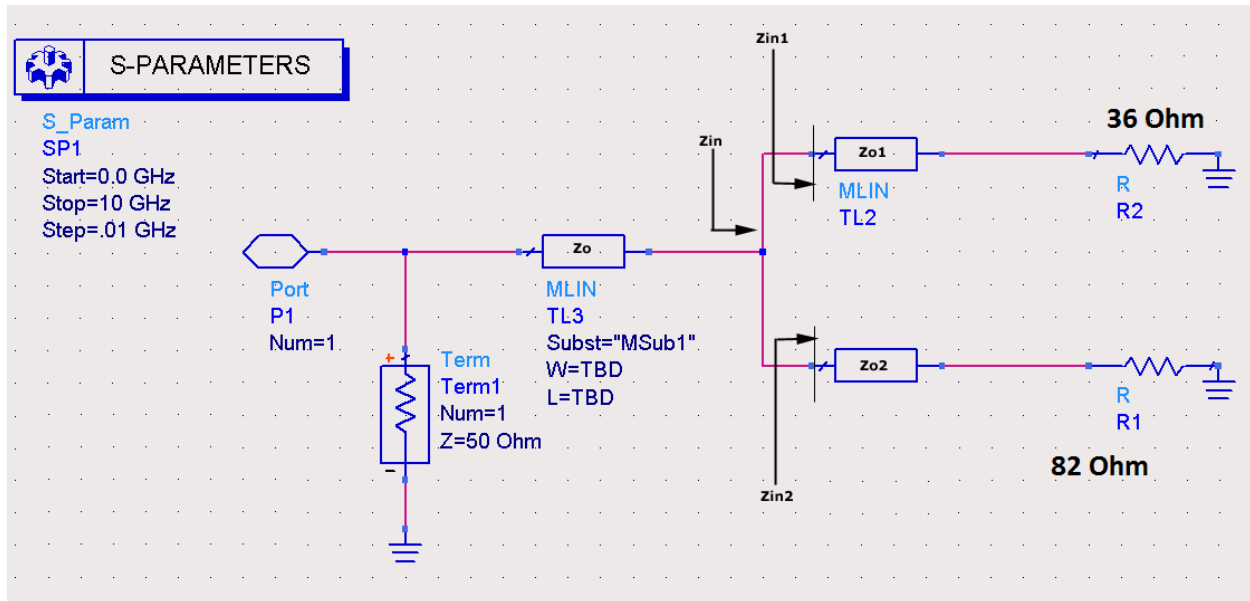

Figure 5 Representative Wireless Local Area Network (WLAN) Communication System.
13. In this part of the lab you are to design a wireless local area network (WLAN) communication system (see Fig. 5) which use two antennas in parallel. You can model these antennas using equivalent circuits defined as $Z_{L1} = 82 \Omega$ and $Z_{L2} = 36 \Omega$. These loads need to be matched to a transmitter with an internal impedance $Z_g = Z_o = 50 \Omega$.